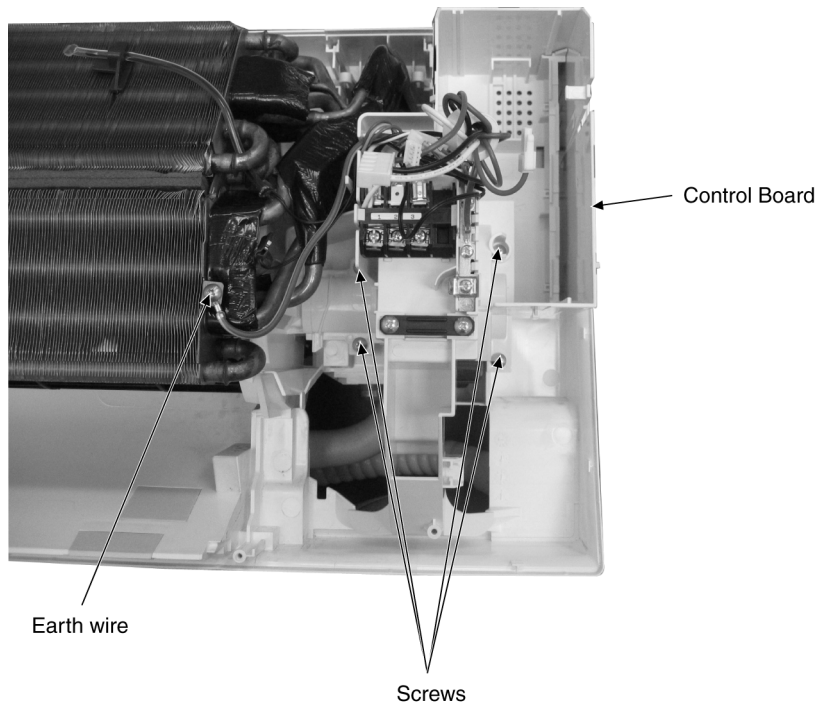

Fig. 8
- Remove the earth wire from the evaporator. (Fig. 8)
- Remove 2 screws on the left and right side of the control board. (Fig. 8)
- Then pull out the control board from the unit. (Fig.8)